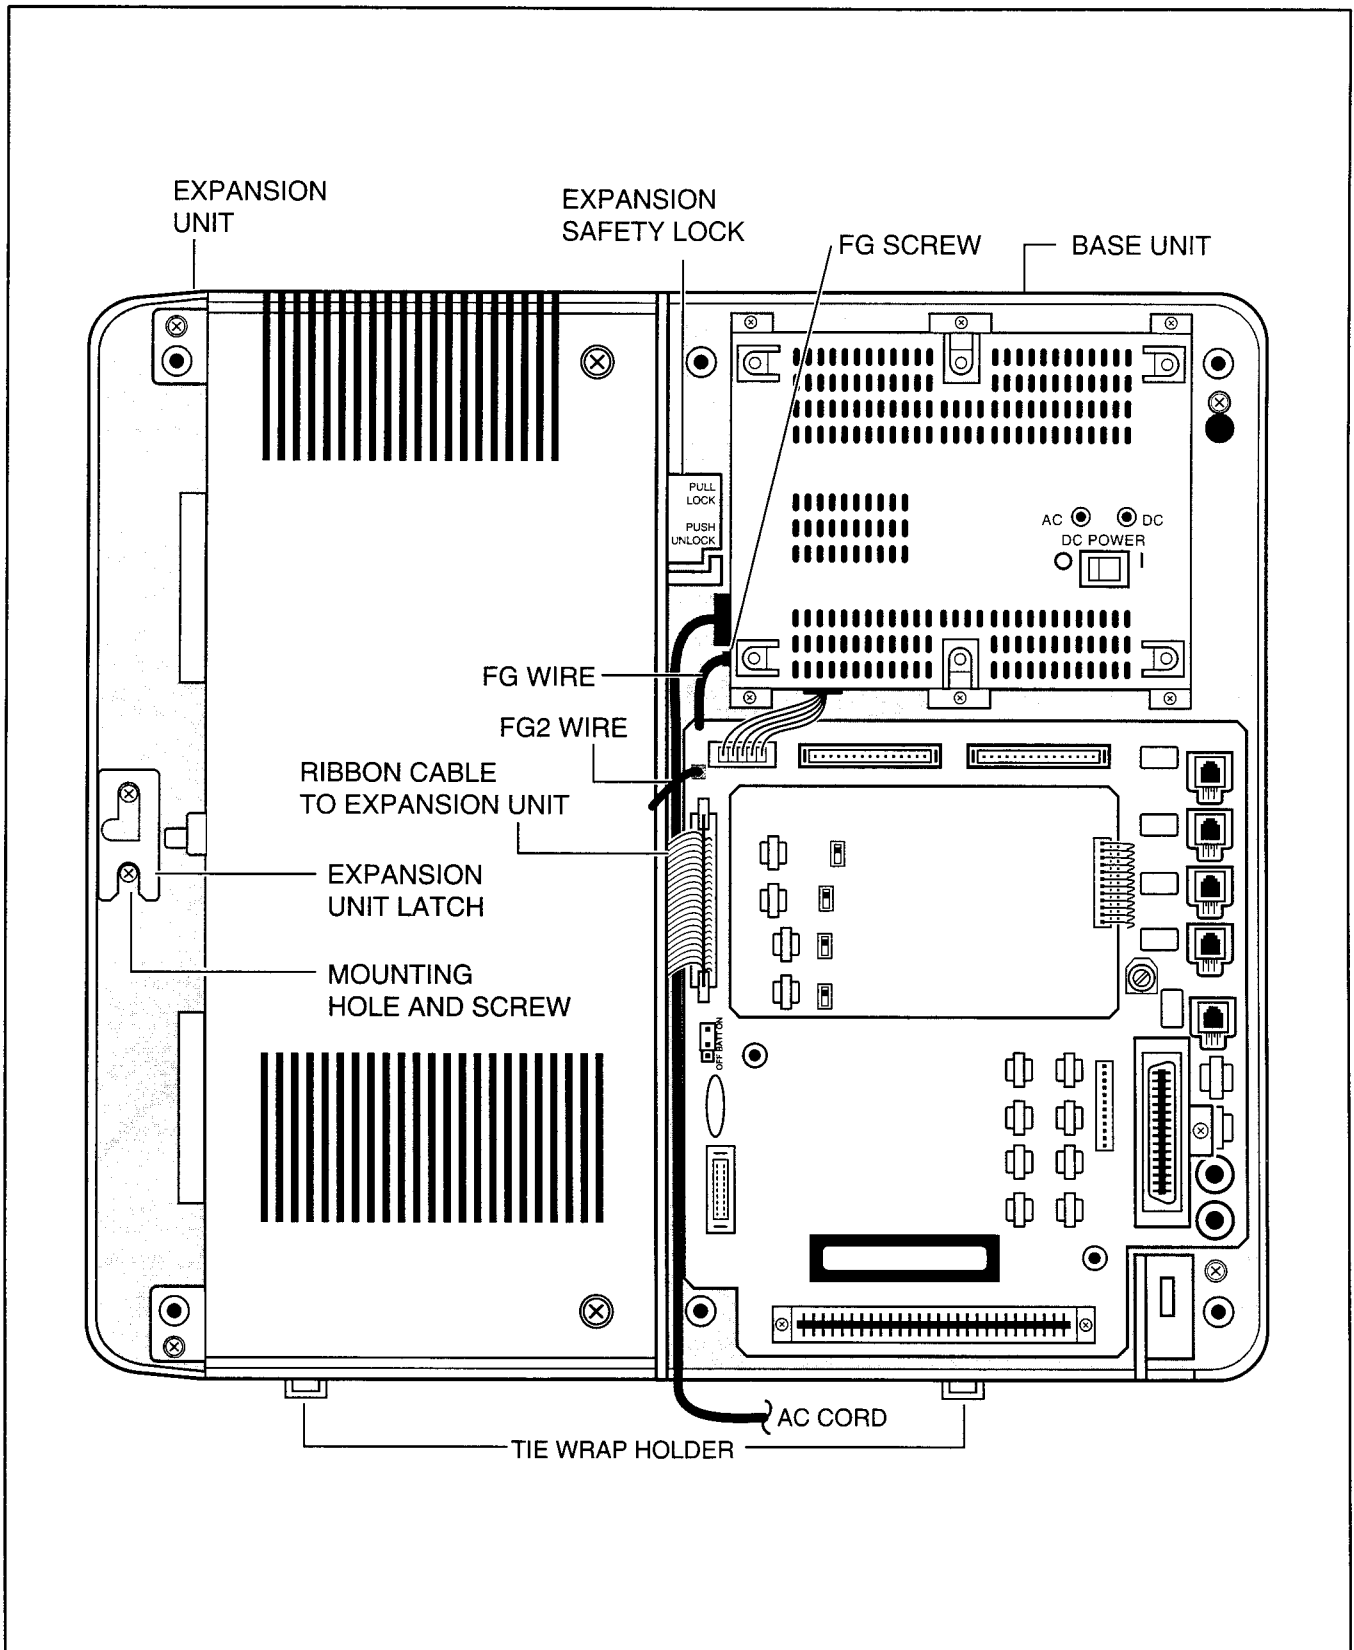

FIGURE 5-6
- 7) Making sure that the Expansion Key Service Unit is flush against the mounting surface, mark the location of the Expansion Unit mounting screw hole (Figure 5-6).